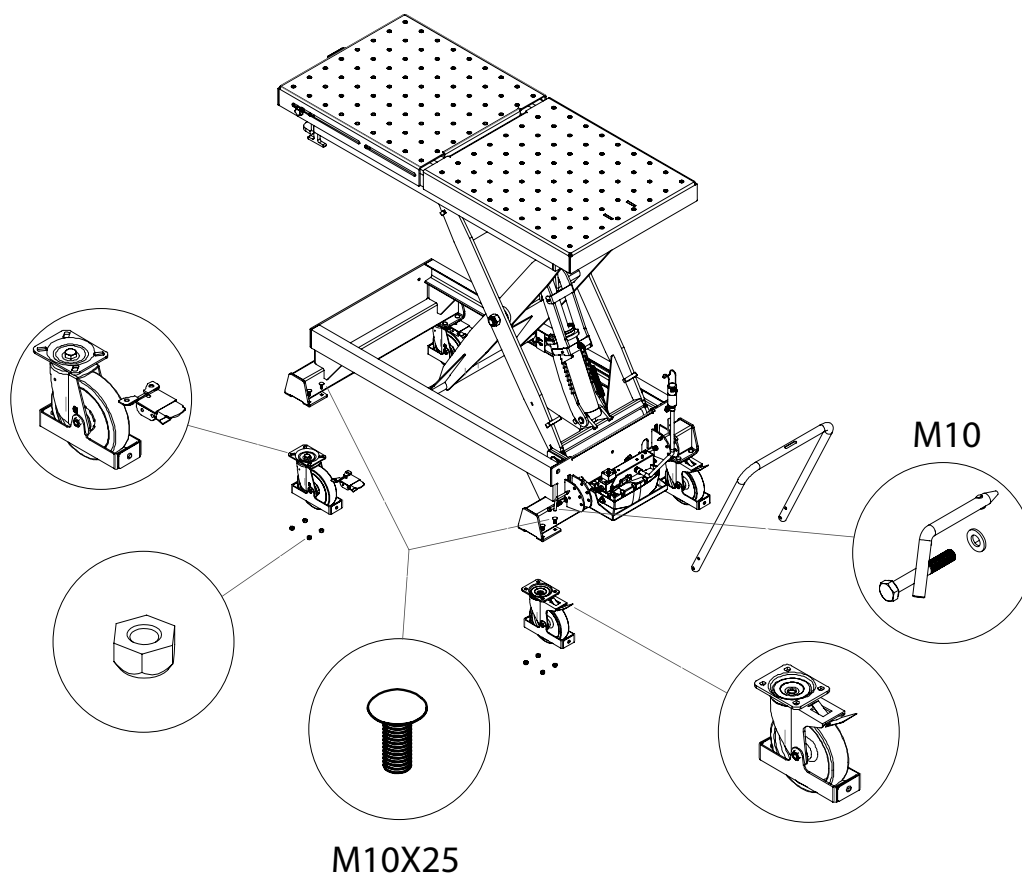

figure 01
- The handle must be assembled as indicated in “figure 01”
- The wheels must be mounted as indicated in “figure 01”
The wheels with brakes must go next to the handle “figure 01”
The wheels with directional lock must go to the opposite side of the handle “figure 01”